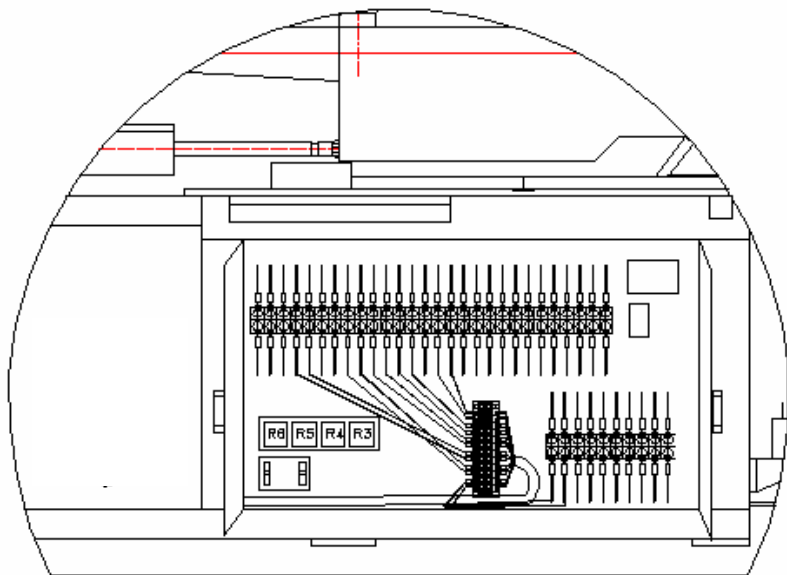

Figure 2-10-1
3. Attach the cable from picker to the interface box and secure to prevent damage during operation. (Figure 2-10-1)